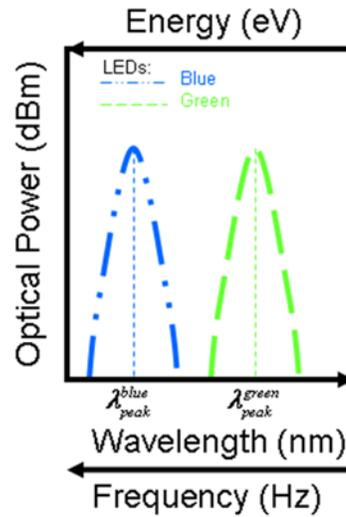

Figure 3: Optical power spectrum versus wavelength, frequency and energy of two LEDs of different colors. You must have all 3 x-axes on your plot.
The lab will be performed in **Professor Wan Kuang's** research lab. Hence, please treat the facilities and instrumentation with care. **Dr. Paul Davis** will set up the experiment in which several light emitting devices are to be characterized. Each group is responsible for measuring the measured current versus input voltage (I-V curve) characteristics (figure 2) and the output power versus wavelength (figure 3). Thus, it is important that you save all the data from the lab and keep a copy of the data for yourself and the group. From each set of measurements, you are to calculate the following:
- (2) Determine the energy, wavelength and frequency range and maximum of the optical power of the LEDs measured (see figure 3).
- (3) Determine Planck's constant (mean and standard deviation) from the
Figure 4: The data (points) of $V_{turn-on}$ as a function of maximum Peak Frequency. $V_{turn-on}$ is obtained from figure 2 and the peak frequency is obtained from figure 3. The slope of the fit (dashed line) provides a number that should be close in value to a very famous constant.
- Optical Power (dBm) versus wavelength, energy and frequency (see figure 3)